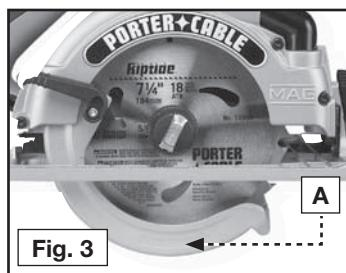

Fig. 3
4. Retract the telescoping guard (A) Fig. 3 and remove the blade.
The telescoping guard (A) Fig. 3 is a safety device important for your protection. Every time you use the saw, verify that the telescoping guard rotates freely and returns quickly and completely to its closed position. At least once a month, remove any accumulated debris (sawdust, pitch, etc.) from the area around the hub (B) of the telescoping guard. **DO NOT LUBRICATE THIS AREA.** The hub has a dry film lubricated surface that does not need oiling. **DO NOT** block or wedge the telescoping guard in the open position.